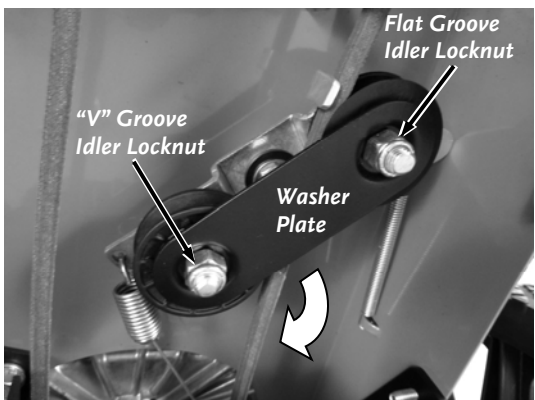

Figure 28
5. Remove the Locknut that secures the Washer Plate to the flat groove Idler Pulley using a 9/16" Wrench. Loosen the other Locknut to the V groove Idler Pulley using a 9/16" Wrench just enough so the Washer Plate can be rotated out of the way (**Figure 28**).
13. Rotate the Washer Plate onto the Flat Groove Idler Stud and install the Locknut using a 9/16" Wrench (**Figure 28**). Tighten the "V" Groove Idler Locknut using a 9/16" Wrench.